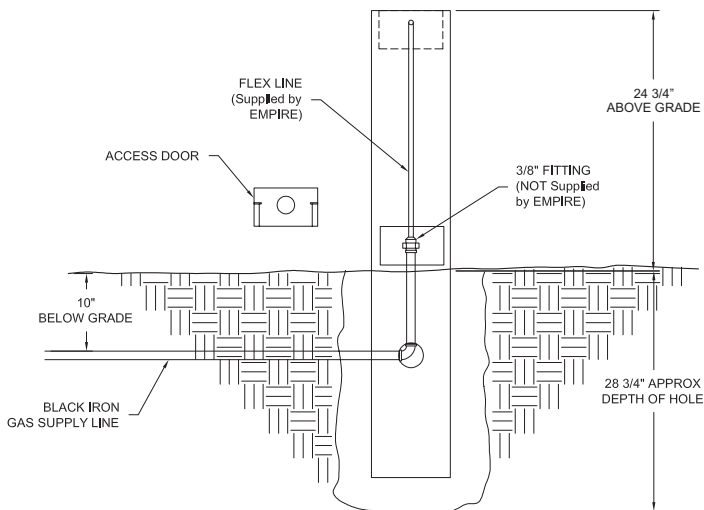

Figure 8
7. Arrange with your local gas company or licensed contractor to have a gas supply line connected to the inlet of the stainless steel flex tube assembly. The gas supply must have a shutoff valve that is close to the post in case of emergency and must be shutoff when the grill is not in use. See Figure 8.